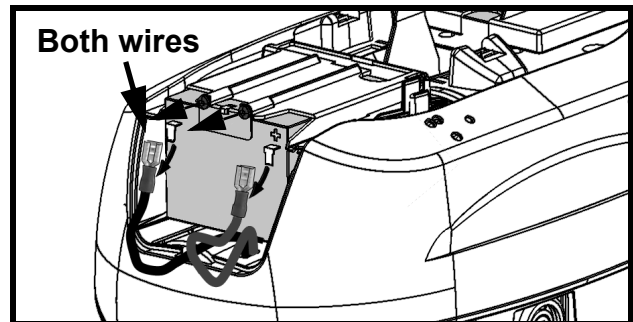

Fig. 3
- 5) Disconnect the batteries. Remove them by unscrewing the 4 screws using a Torx T-20 screwdriver (see Fig. 3).